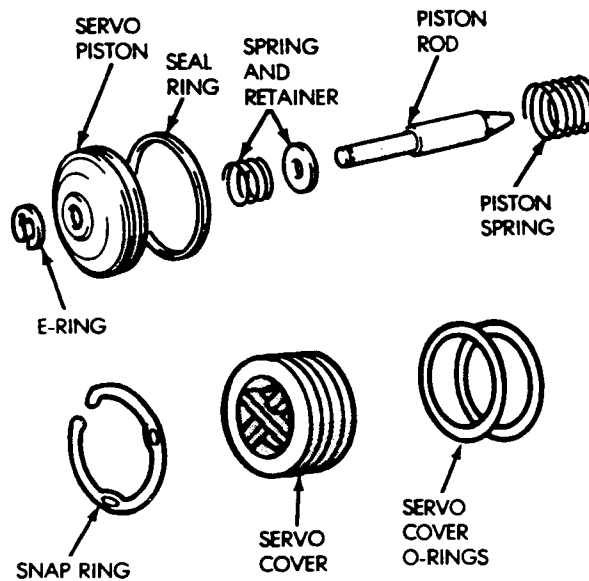

Fig. 30 Second Coast Brake Piston Components
- (38) Disassemble second coast brake piston (Fig. 30).